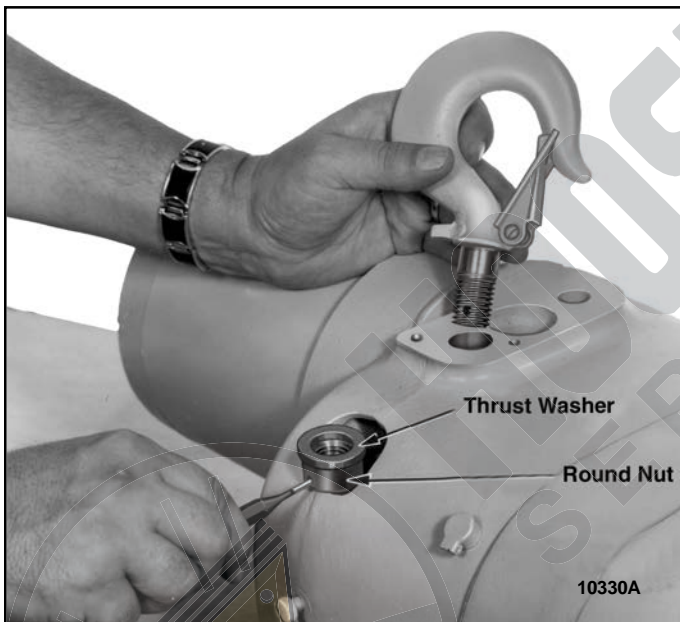

Figure 2
1. Drive grooved pin from hook nut. Unscrew hook while holding nut stationary with pin punch partially inserted in pin hole of nut. Nut can be reached thru access hole in side of hoist frame, Figure 2.